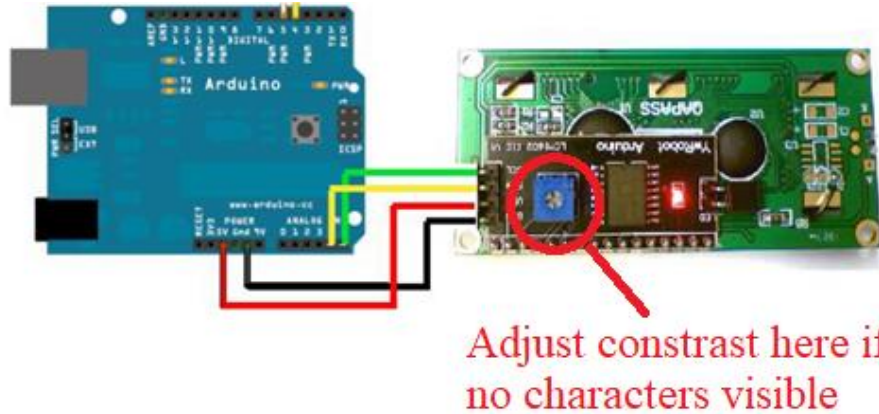

Figure 3. Layout of the LCD. You may need to adjust the screen bias to see the actual characters.
- Assemble the layout shown in Figure 3. (SDA goes to A4, SCL goes to A5)